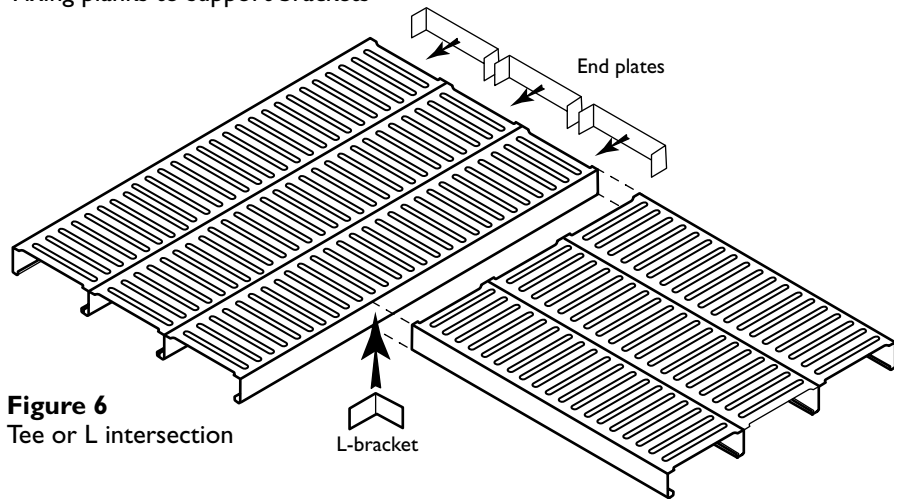

Figure 6
An end plate is used at the open end of a ROOFTRAK plank that abuts nothing (Figure 6).
- Fix planks in place and secure the intersection with an L-bracket(s) (Figure 6).